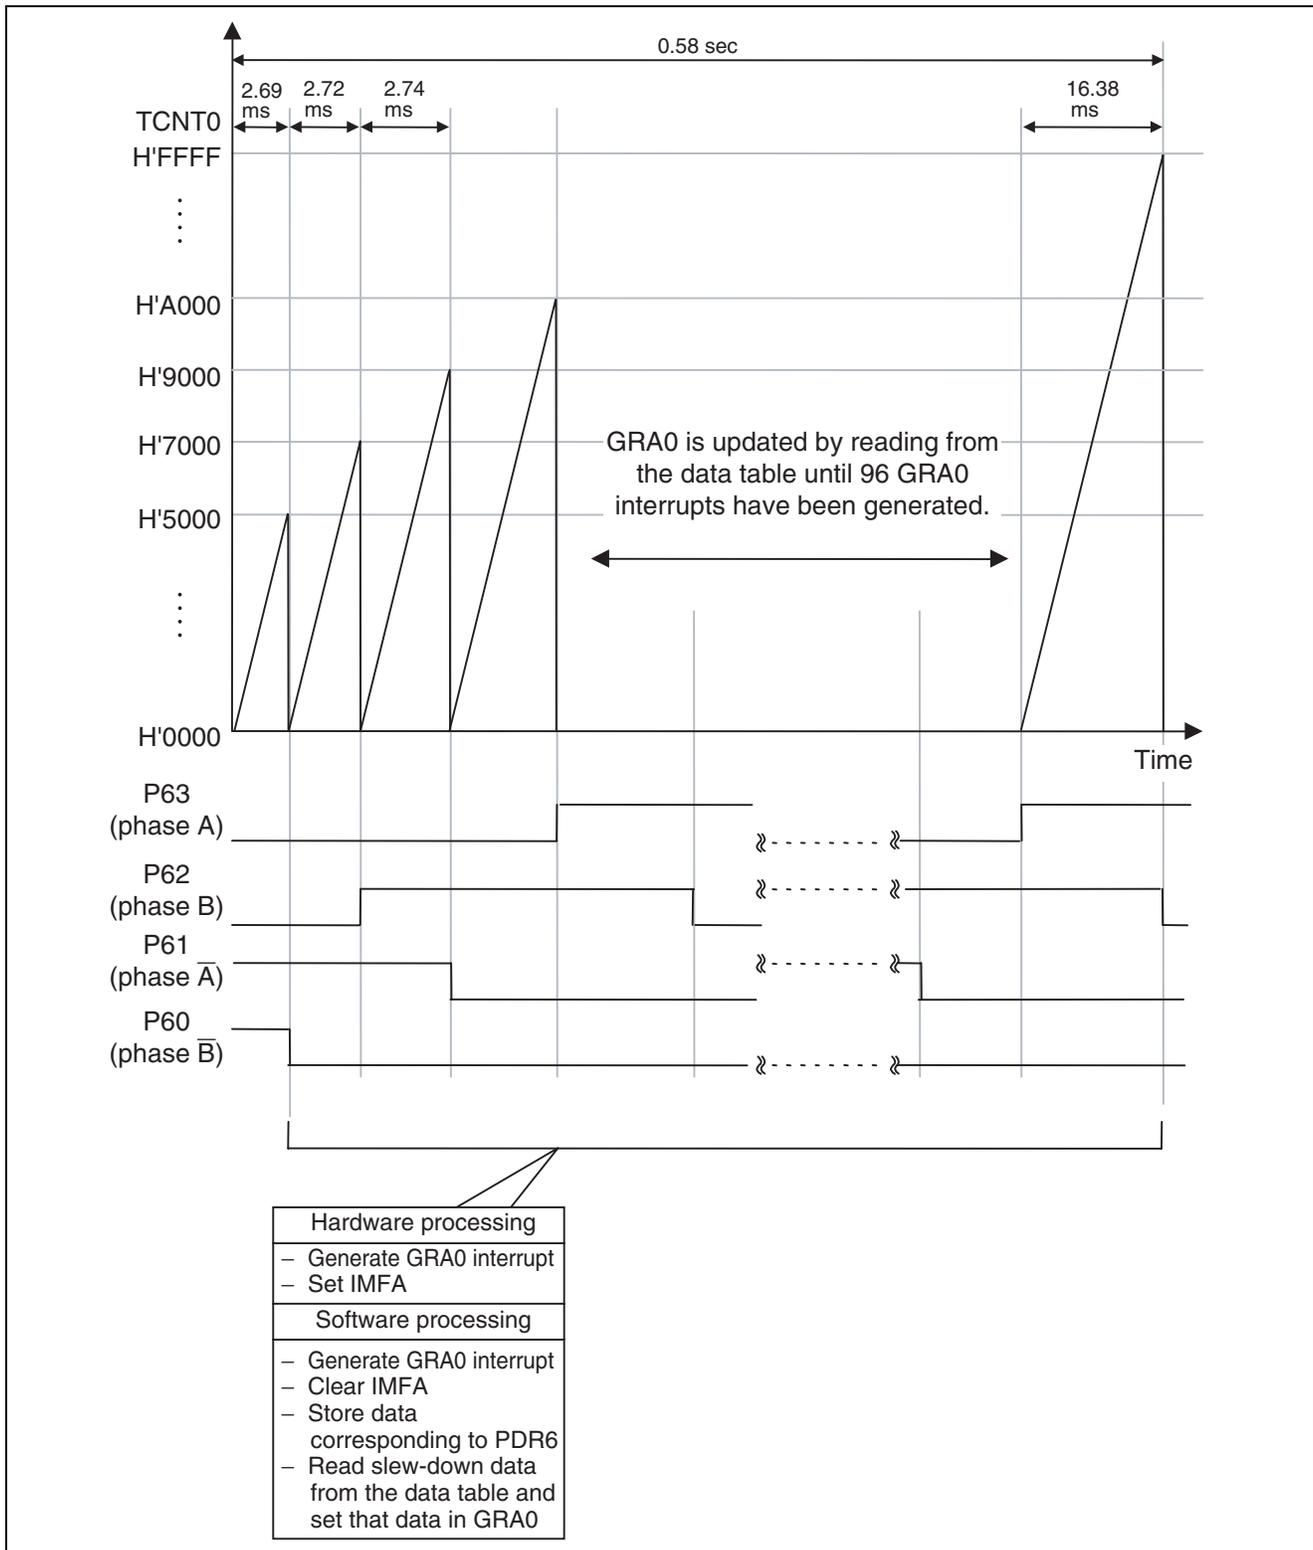

Figure 14 Principle of Slew-down Control during Reverse Rotation
3.11 Figure 14 illustrates the principle of slew-down control during reverse rotation.